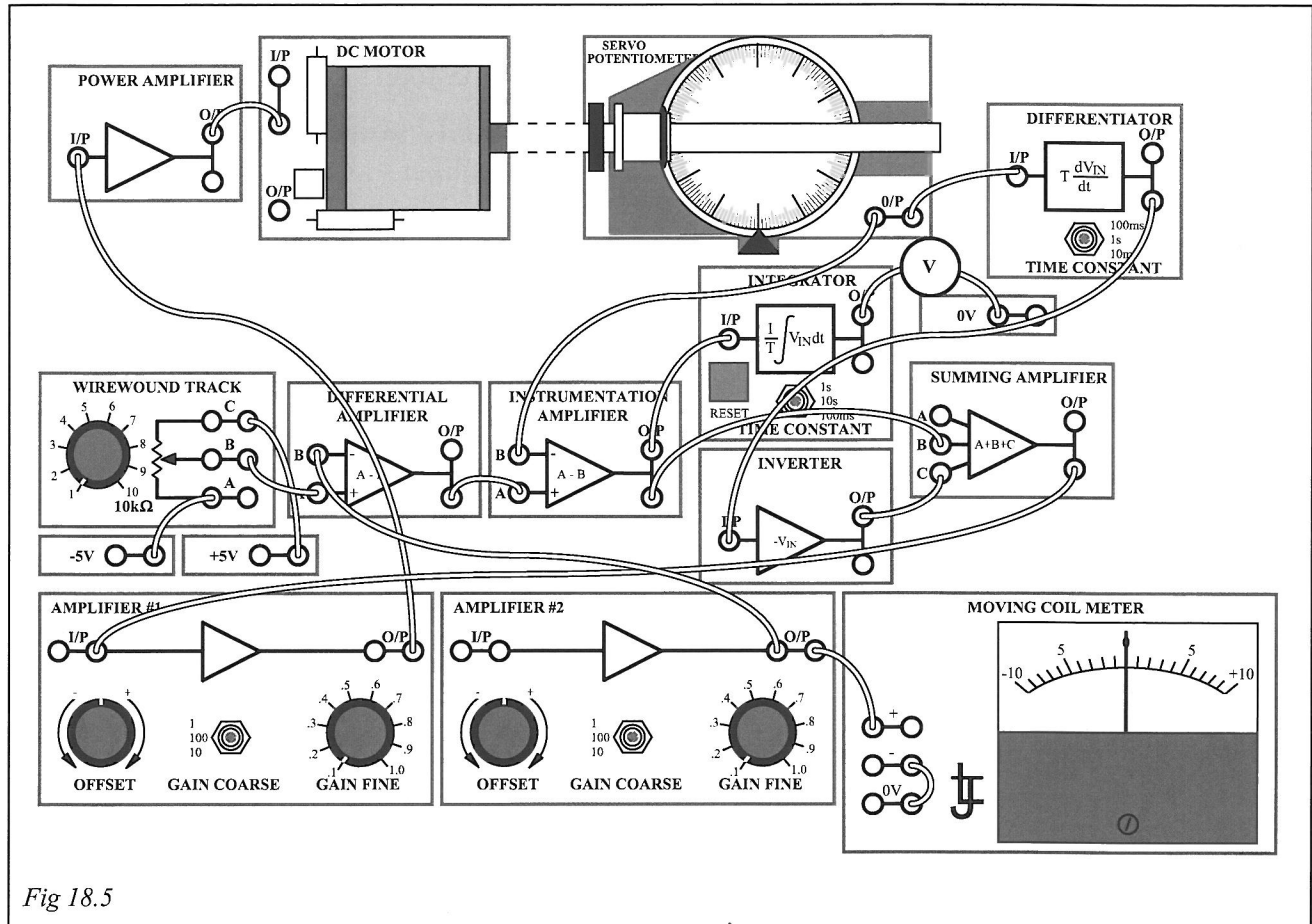

Fig 18.5
- If you still have the circuit connected then remove the lead from the Integrator output to the Summing Amplifier and connect the output from the Inverter to the Summing Amplifier as shown in Fig 18.5. Otherwise connect the circuit as shown.